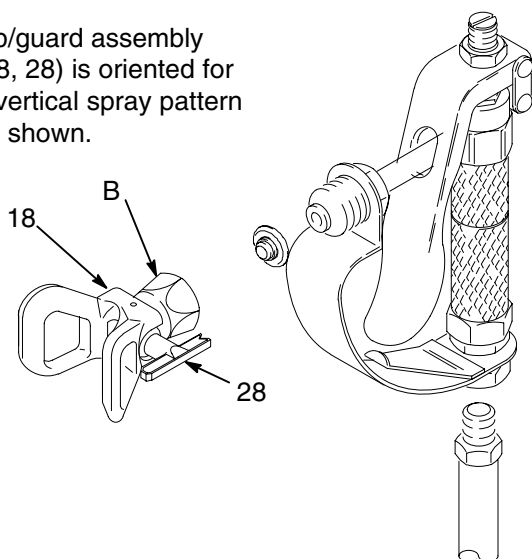

Fig. 3
To adjust the orientation of the spray pattern, **relieve the pressure**. Engage the safety latch, and loosen the tip guard retaining nut (B). Rotate the tip/guard assembly (18, 28) to the spray pattern orientation you desire. See Fig. 3.
2. Remove the spray tip. See Fig. 3.